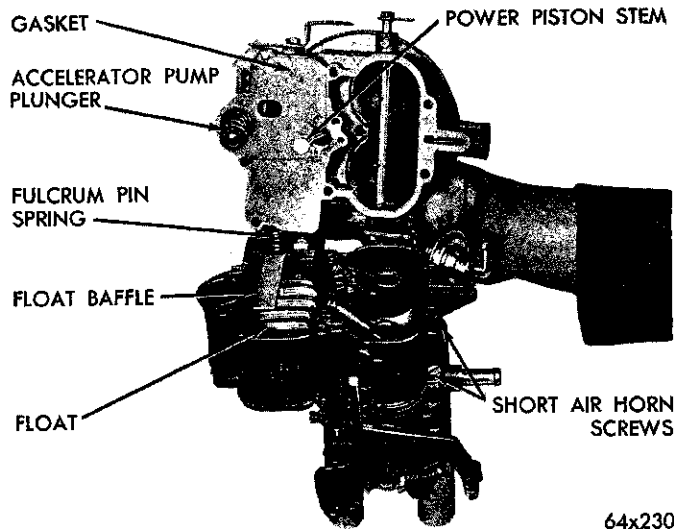

Fig. 3—Removing the Air Horn
(1) Install four elevating legs, Tool T109-287S, in the mounting flange holes in the throttle body. These legs are used to protect the throttle valves from damage and to provide a suitable base for working.
(2) Remove the hairpin clip that holds the pump rod in the center slot of the pump arm. Remove rod from slot and disengage from the throttle lever.
(3) Remove the hairpin clip that hold the fast idle rod in the fast idle cam. Disengage rod from cam, then rotate rod to disengage from choke lever.
(4) Remove the three short air horn attaching screws, then remove the two long air horn attaching screws. Install two short screws through the main body into the throttle body to hold the bodies together (Fig. 3).
(5) Remove the vacuum hose between the carburetor or air horn and the vacuum diaphragm.
(8) Remove the remaining air horn attaching screws, then lift air horn straight up and away from main body, as shown in Figure 3.